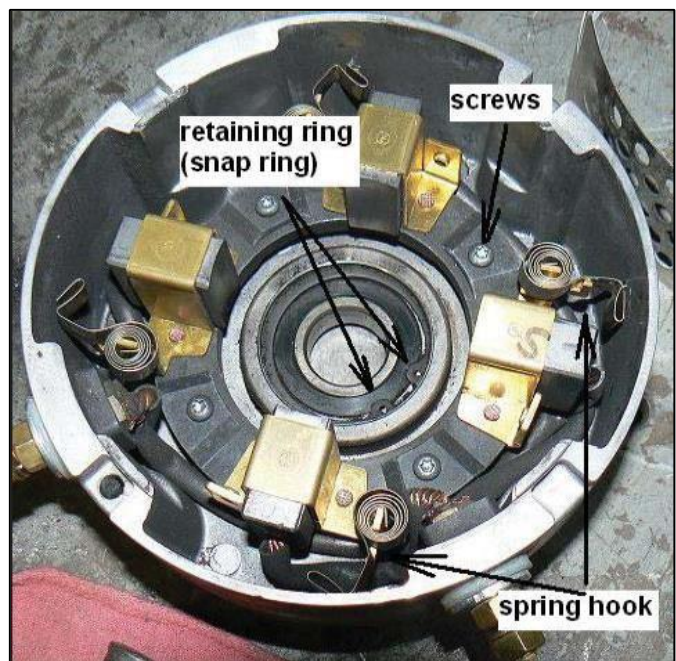

Figure 10-5
5. Move brush springs behind spring hooks shown in Figure 10-5.